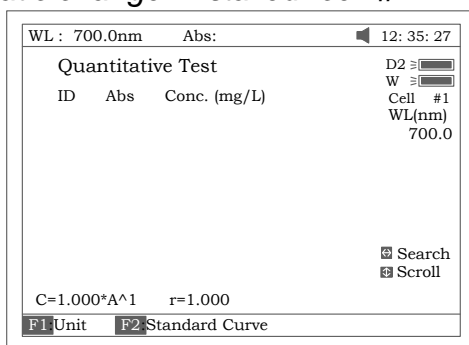
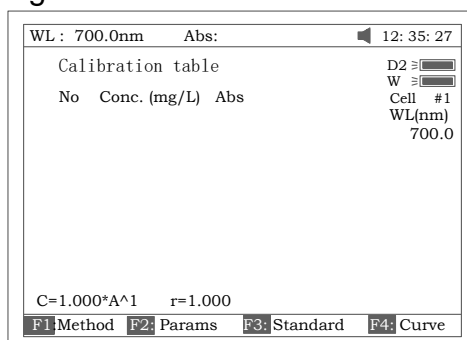
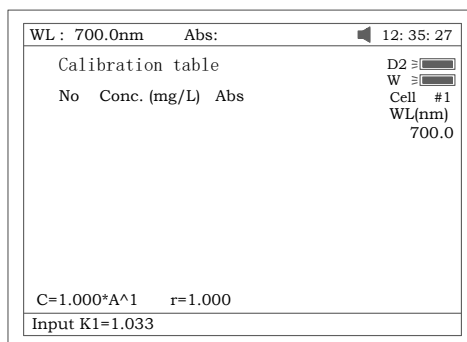
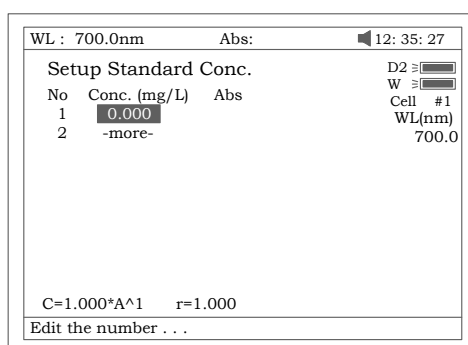

Fig 26
Fig 29
Fig 29A
Fig 30
Press **【2】** in Main Menu for “Quantitative” Test (Fig 26). Press **【ESC/STOP】** to exit.
Note: *.If no automatic changer installed “cell #1” will disappear in Fig26.*
3. Press **【F2】** in Fig 26 for more items to select .See Fig 29.
- 3.1 Press **【F1】** in Fig 29 to select fitting method. There are 4 methods for you to choose: Linear fit, linear fit through zero, square fit and cubic fit.
3.2 Press **【F2】** in Fig 29 to enter directly a known standard curve. Fig 29A.
3.3 Press **【F3】** in Fig 29 to establish a standard curve by measuring a group of standard samples. See Fig 30.
See 3.2. For Fig 29 enter a known standard curve directly.
Note: All sample results must be taken in screen Fig26.